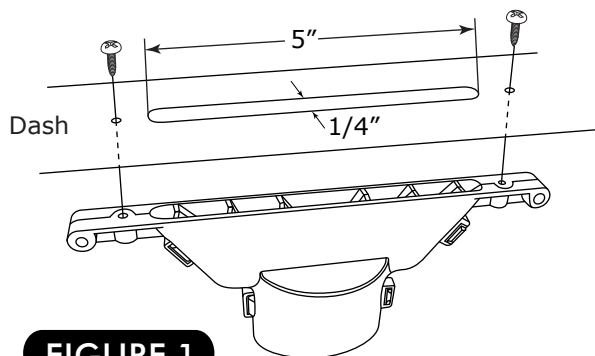

FIGURE 1
- BEFORE BEGINNING, REMOVE COWL VENT HANDLE AND GLOVE BOX TO EASE INSTALLATION. IF THE DASH IS EASILY REMOVABLE, REMOVE IT NOW. CHECK FOR, AND FILL IN ANY HOLES IN THE FIREWALL AND FLOOR. INSULATE AND SEAL FIREWALL, FLOOR, DOOR PANELS, AND HEADLINER TO REDUCE THE AMOUNT OF HEAT ENTERING THE CAR. FIGURES 1 AND 1A SHOW THE GENERAL LOCATION OF THE DEFROST DUCTS. LOCATIONS WILL VARY. IF YOUR UNIT IS EQUIPPED WITH THE DEFROST OPTION, INSTALL THE DUCTS NOW.